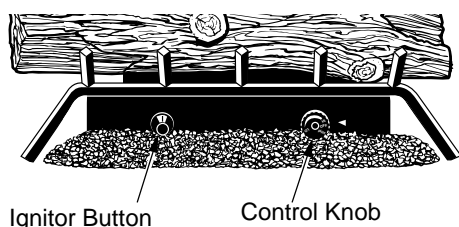

Figure 27 - Control Knob and Ignitor Button Location
5. Turn control knob counterclockwise  to the PILOT position. Press in control knob for five (5) seconds (see Figure 27).